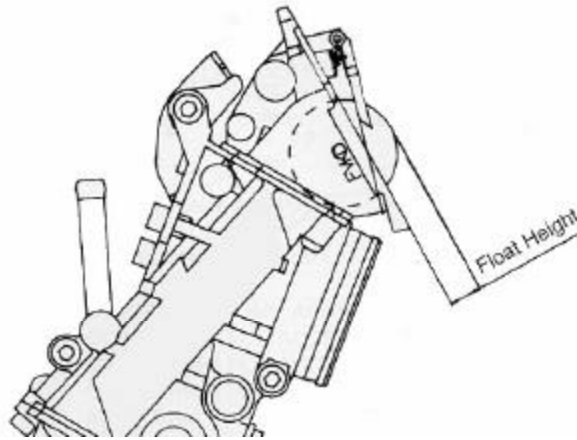

Figure 10
7. Hold the carburetor (with the float bowl removed) as shown in figure 10, measuring from the bottom of the float to the carburetor body gasket surface.